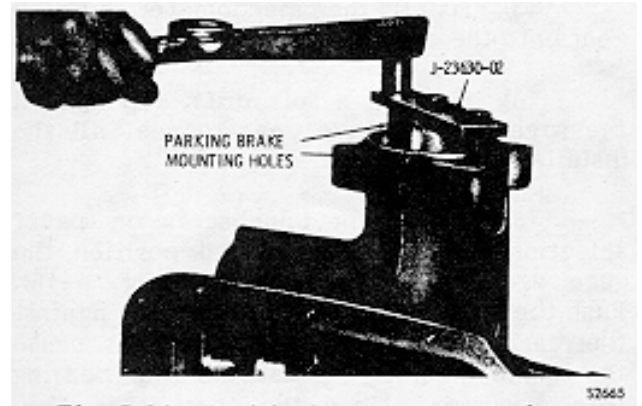

Fig. 7-19. Positioning components for front thrust washer measurements
(11) Remove the spring compressor base, turn it over, and reinstall it. Tighten the center bolt to 15 lb ft (20 N•m). Align the spring compressor base with the two parking brake mounting holes in the transmission housing (Fig. 7-19). Install two 1/2-13 bolts through the base and into the case. Tighten these bolts evenly to 5-8 lb ft (7-11 N•m). This positions the gear pack and all components for an accurate selective thrust washer measurement in paragraph 7-7.